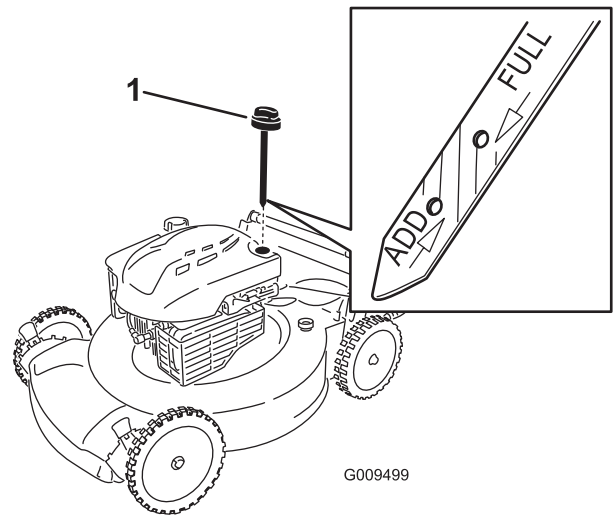

Figure 28
6. Remove the dipstick from the oil-fill tube (Figure 28).